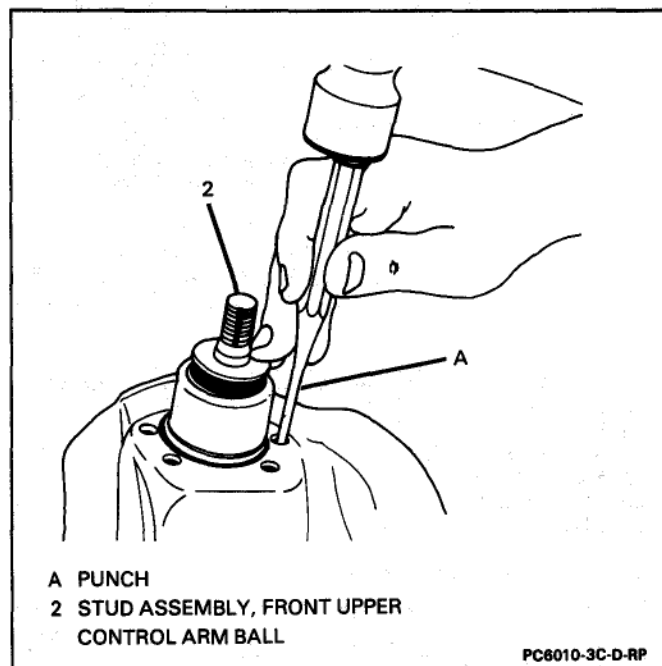

Figure 9 – Removing Upper Control Arm Ball Stud Assembly
11. Punch out rivets, using small punch, and remove ball stud assembly (2). Refer to Figure 9.